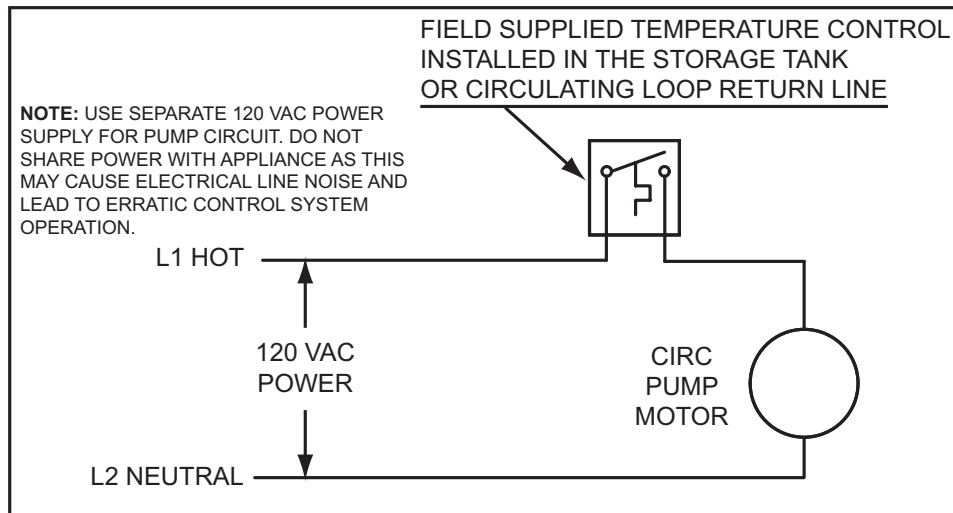
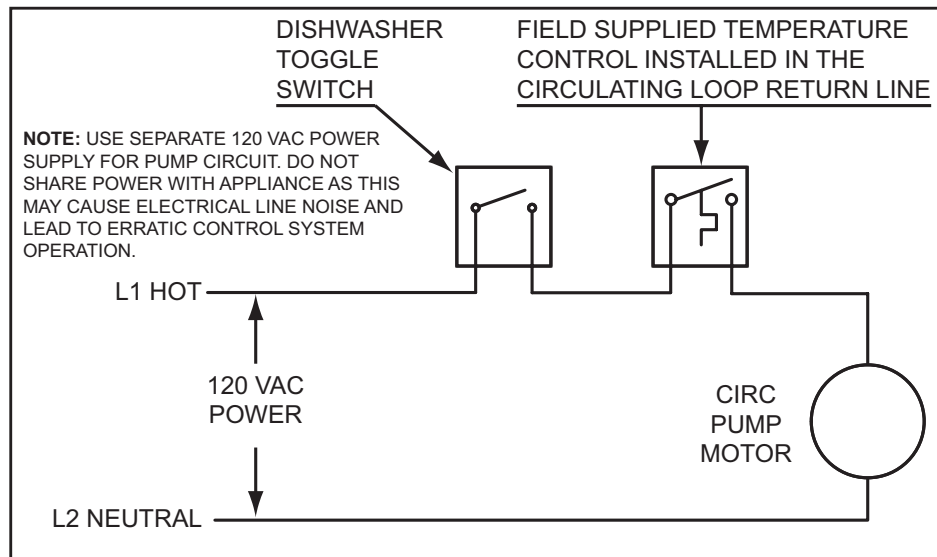

Figure 63
Figure 64
6. If a pump is being installed between a water heater and storage tank or on a building recirculation loop wire according to Figure 63 on page 66.
7. If a pump is being installed in a recirculation loop between the water heater and a commercial dishwasher wire according to Figure 63 or Figure 64 on page 66.